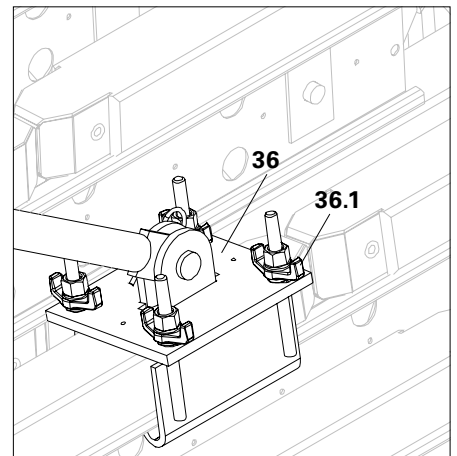

Fig. A8.01b
2. Attach connections in the extension splice and tighten wingnuts. (Fig. A8.01b)